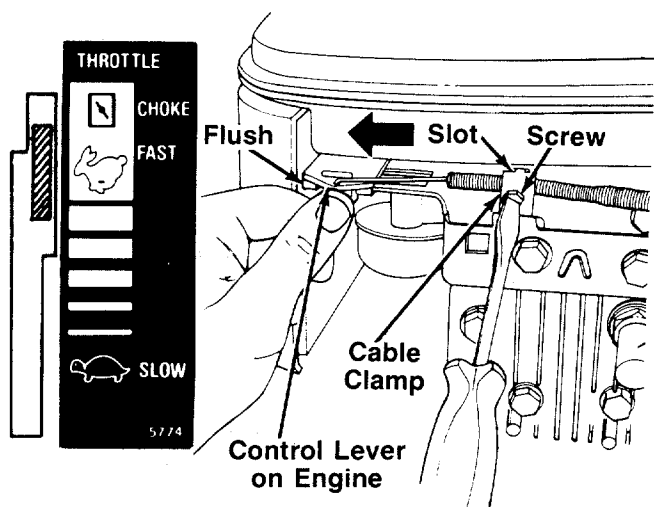

FIGURE 6D.—Models 416R, 419R, 426R & 429R
1. Push the throttle control lever on the handle all the way forward to CHOKE, then back it off two "clicks" (approximately 5/16"). See figure 6D.
2. The throttle control cable is attached to the upper handle. Route the throttle control cable under the lower handle and inside the handle mounting bracket. Hook the "Z" end of the throttle control cable into the hole in the control lever on the engine. See figure 6D.
3. Using a 5/16" wrench or nutdriver, remove the screw on the cable clamp shown in figure 6D. Slip the control cable under the clamp. Replace the screw (cable should be above the screw), but do not tighten (cable must still move freely beneath the clamp). Make certain the tab on the cable clamp is seated into the slot on the engine.
4. Push the control lever on the engine as far toward the outside of the engine as it will go. The edge of the control lever should be flush with the bracket on the engine. See figure 6D. Hold the control lever in this position as you tighten the screw on the cable clamp to secure the throttle cable.